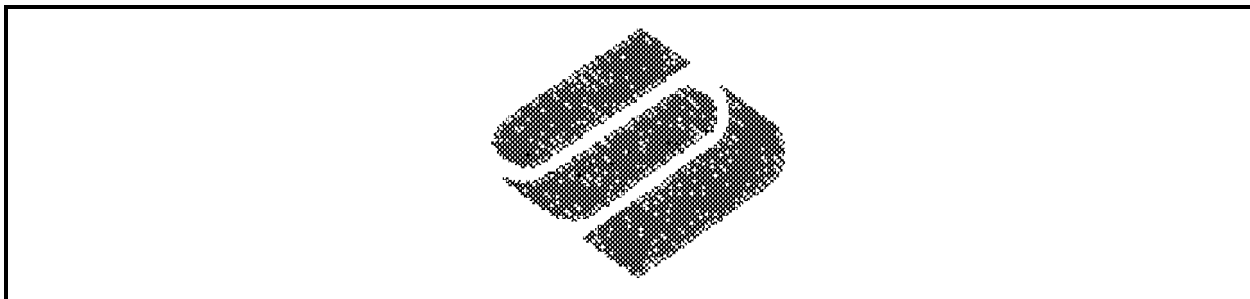

Figure 3-65
3. When you have completed the fill stitching with a Mk3 at point A, perform a lock stitch at D. You should now have completed the fill stitching on the Saurer logo and it should look similar to the illustration in Figure 3-65.